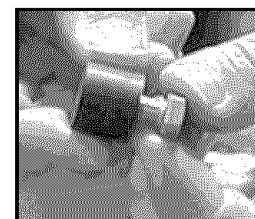

Fig. 4
4. Screw Rubber Cap onto Bolt from the topside of Cart Base and tighten securely. (See Fig 4)